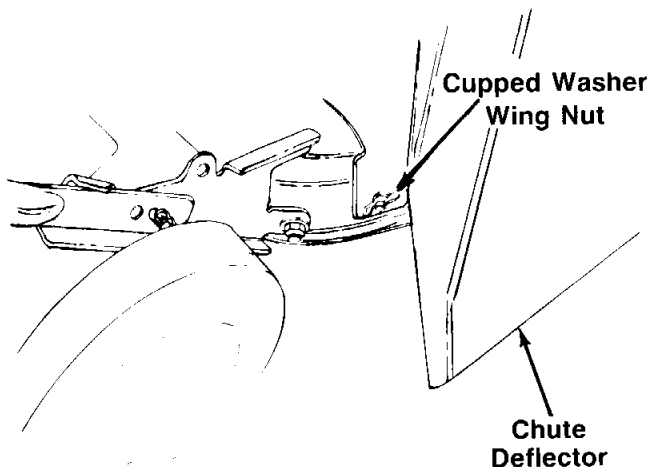

FIGURE 20.
4. Secure the back of the chute deflector in the same manner. See figure 20.